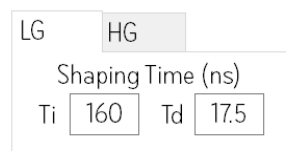

Figure 8 – Slow control Shaper parameters
Users can also set shaping time (defined by integration time constant,  $T_i$  and derivation time constant,  $T_d$ ) for High Gain (HG) and Low Gain (LG) shapers in order to modify each shaper gain or response time (Find more information in section 3.2 of datasheet). Refer to Figure 8.
In the Track and Hold section there is a textbox where it is possible to set up the track and hold delay (Figure 8). This value can also be found automatically with the hold scan calibration test (refer to section 4.5).